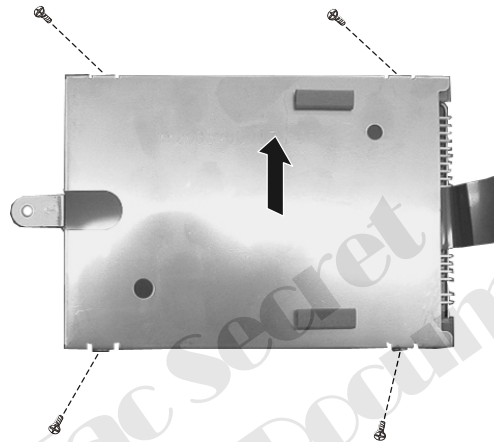

Figure 2-9 Remove hard disk drive
4. Remove four screws to separate the hard disk drive from the bracket, remove the hard disk drive. (Figure 2-9)